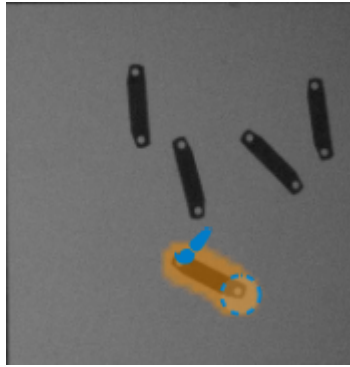

Figure 9: Draw a part shape region
- Click **Brush** to draw a region that covers a feature of the reference part. See figure 9.